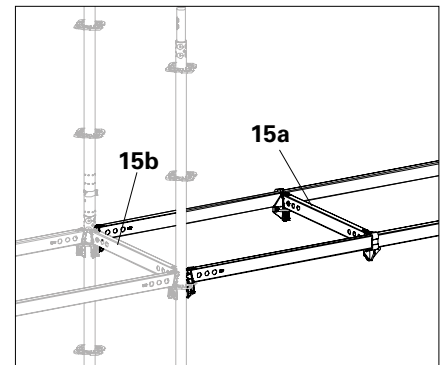

Fig. A11.07d
- Due to increased load requirements, the assembly tolerances are very low. When installing a ledger (15a) that is secured on both sides, knock the ledgers (15b) running parallel to it into place last. (Fig. A11.07d) Alternatively, fit the ledger-to-ledge couplers in a slightly offset manner, insert the ledger (15a), align the ledger-to-ledge couplers and hammer the wedges in place.